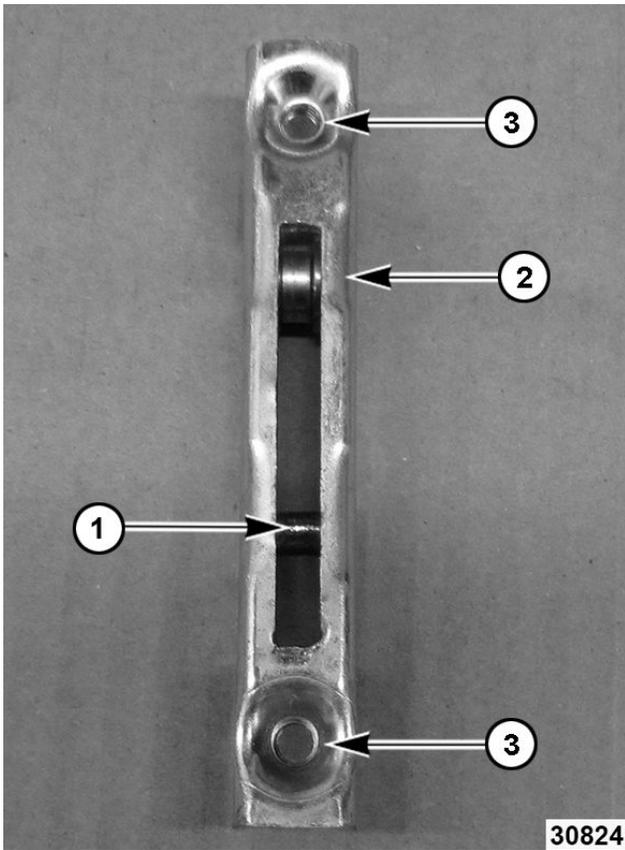

Fig. 105
5. Tie string or flexible wire around pin or roller on new bracket (1, 2, Fig. 105) to assist installation up through cavity channel.
6. Align oven frame and stop bracket mounting holes (2, Fig. 105) and install screws.